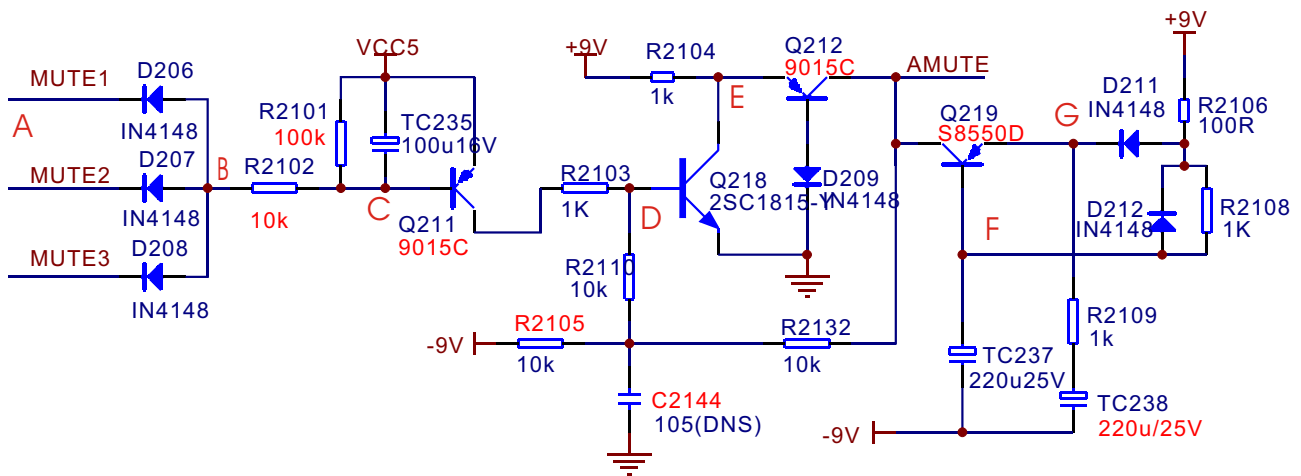

Figure 3.2.9.1 Mute circuit diagram
1. Mute circuit is shown as the following figure 3.2.9.1: